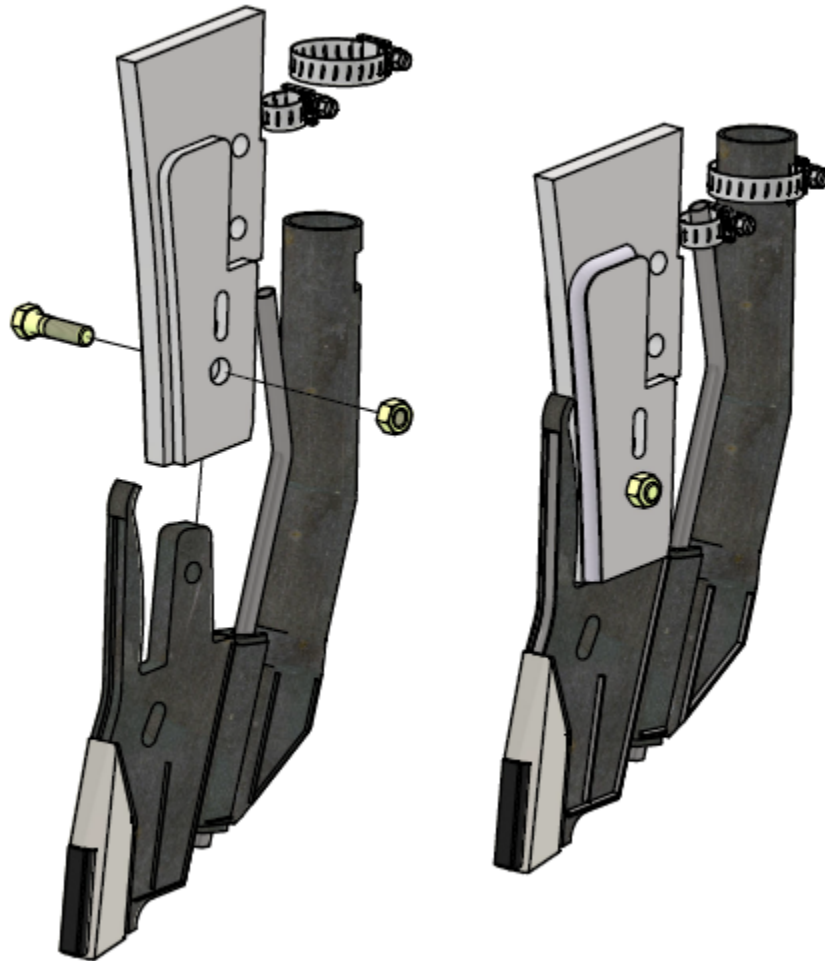

Figure 2: Granular and NH3 fertilizer installation
2. Insert the hex head bolt as shown in Figure 2